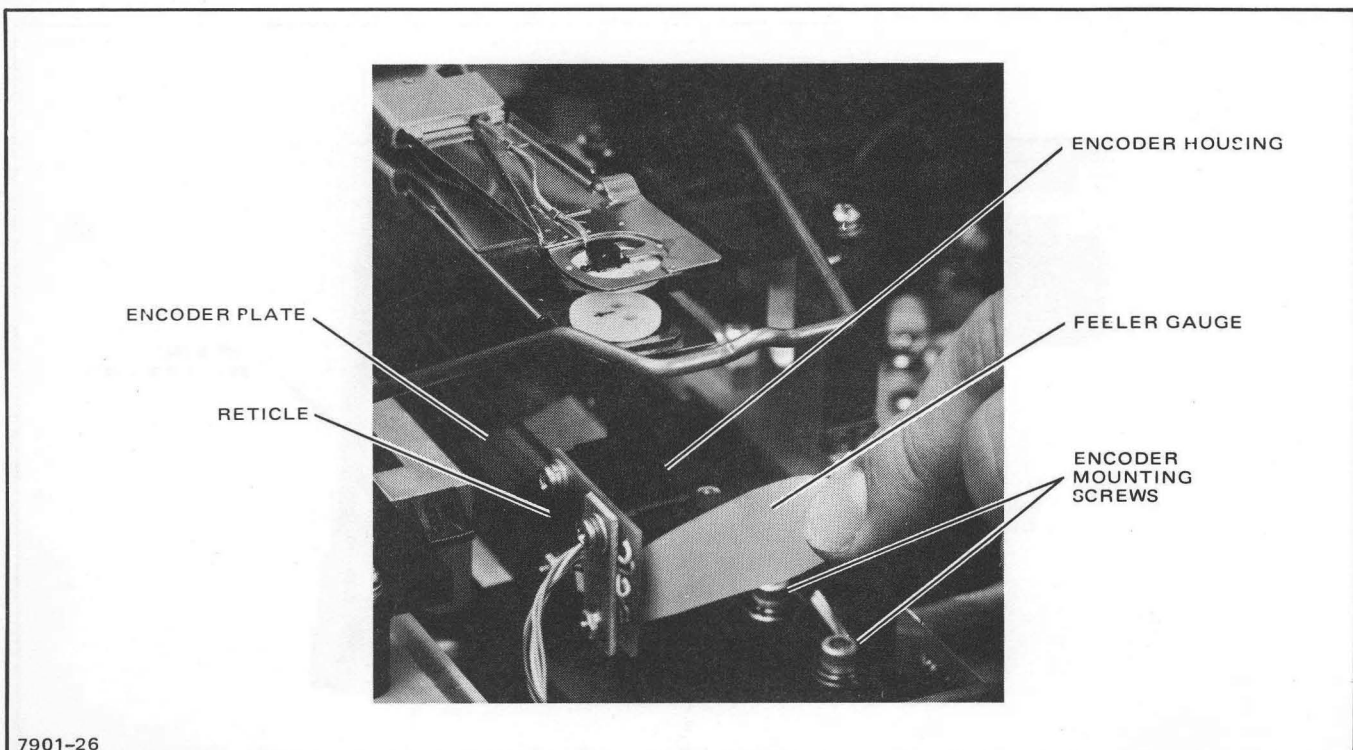

Figure 5-3. Encoder Adjustment
- c. Manually extend the carriage and ensure that the clearance between the encoder plate and the reticle is between 0.005 and 0.008 inch at both ends of travel. If this is not met, the encoder mounting screws must be loosened and the encoder housing moved. (See figure 5-3.)